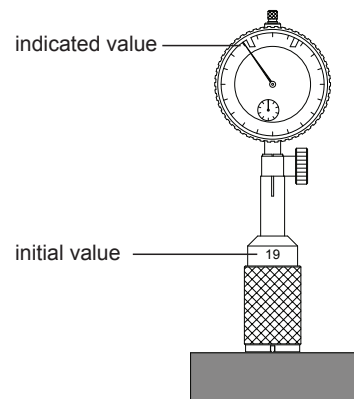

fig.1
- Set zero: put gage on the plate, make sure the base contact plate well (fig.1), adjust indicator to initial value (fig.1).